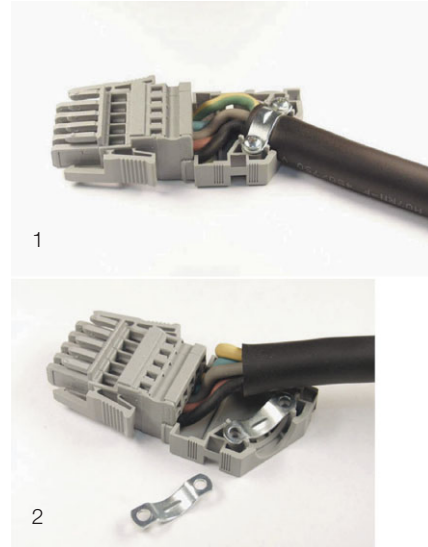

Fig. 73: Connector with strain relief housing
- Guide the conductors in the strain relief housing, as shown in fig. 73, and secure the sheathed flexible cable to the strain relief housing with a cable clamp.
To ensure adequate strain relief even with cables with a diameter of < 12 mm, it is necessary to install a second cable clamp underneath the cable (fig. 73, item 2).